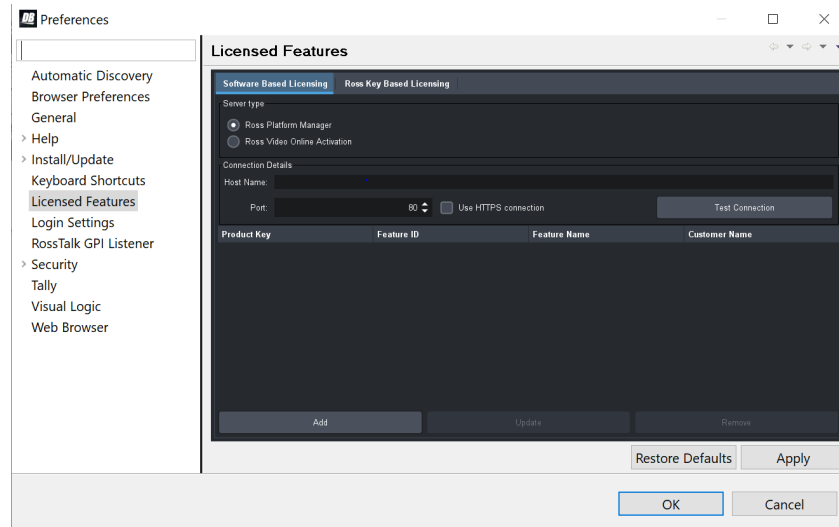

Figure 1 - DashBoard Licensed Features - Software Based Licensing tab
- a. From the main toolbar, select **Window > Preferences**. Refer to Figure 1.